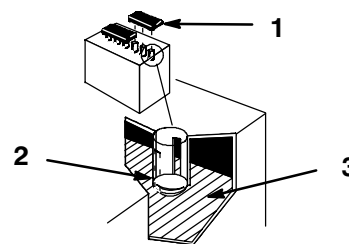

Figure 21
2. Open covers to see into the cells. The electrolyte must be up to the lower part of the tube (Fig. 21). Do not allow the electrolyte to get below the plates (Fig. 21).
2. Lift off the filler caps (Fig. 21).
3. Slowly pour distilled water into each battery cell until the level is up to the lower part of the tube (Fig. 21).